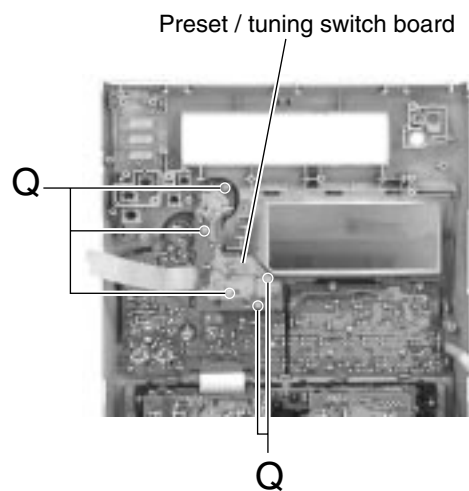

Fig.29
■ Removing the preset / tuning switch board (See Fig.29 and 30)